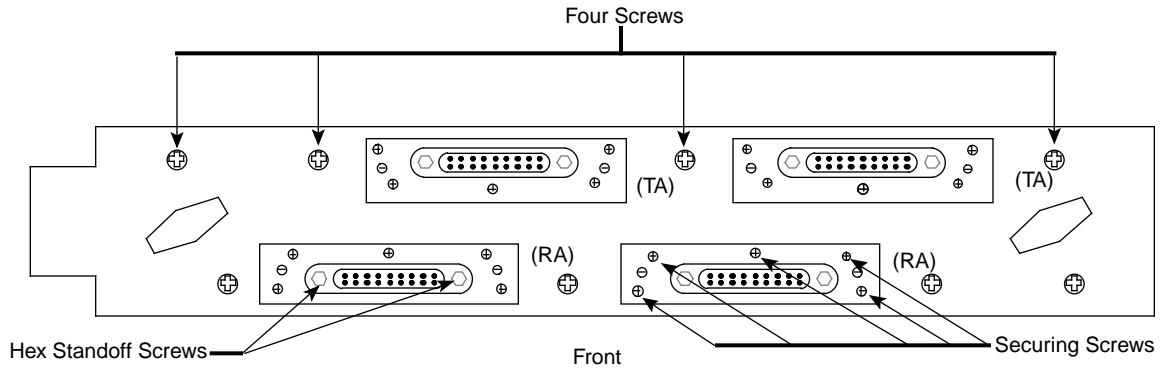

Figure 2. Connector Hardware Screws
1. Orient the module as shown in Figure 2.
3. Remove the four screws that secure the cover to the front of the processor module. Refer to Figure 2.
- b. Remove the two hex standoff screws from the front of the connector faceplate. Refer to Figure 2. (These screws secure the cable to the paddle board.)